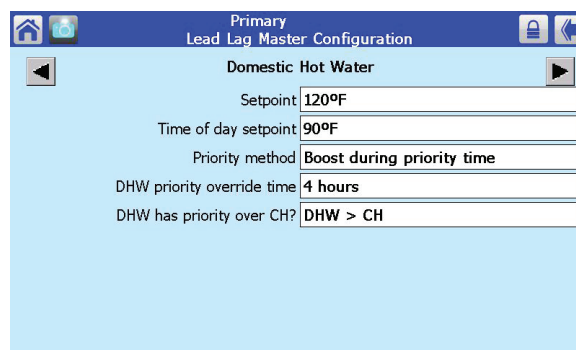

Fig. 119 – Domestic Hot Water
4. Press the button for Advanced Settings. This leads to a "ring" of related screens, and you can scroll through the list by pressing one of the left- or right-arrow symbols. Press the left-arrow or right-arrow until you see the Domestic Hot Water screen (Fig. 119).